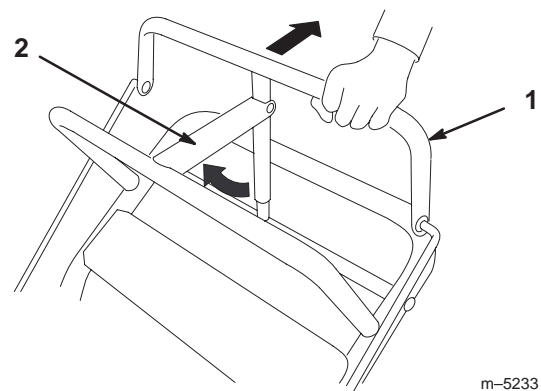

Figure 13
5. Check parking brake adjustment. Brake rods should be adjusted so parking brake lever is tight when swung into position against the fixed bar while pulling back on upper control bar (Fig. 13).